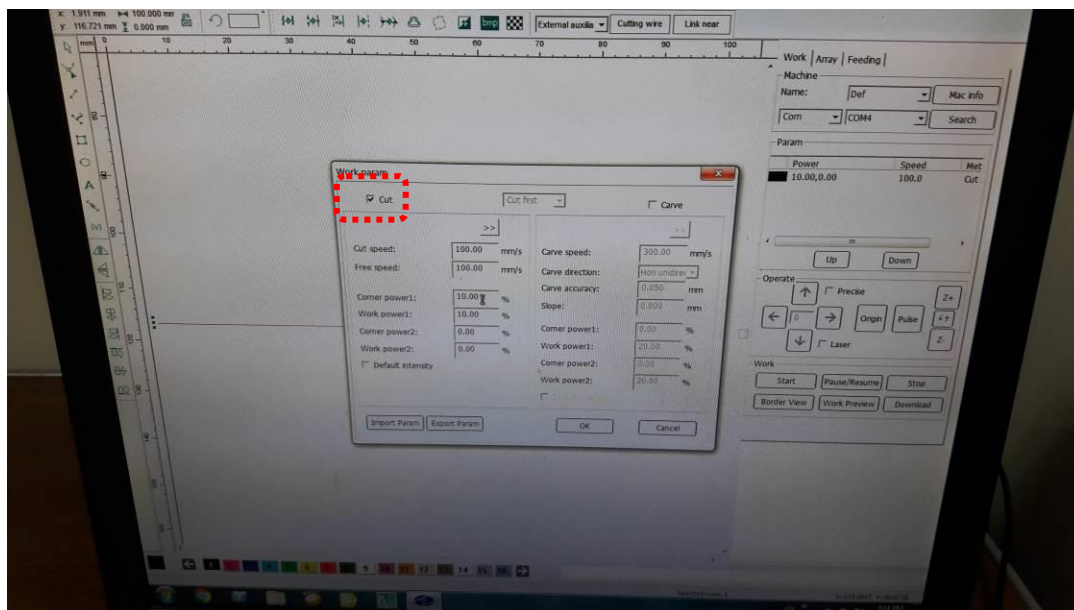

Figure 3 Work param window
- 5. Check the “cut” option. ( Figure 3 )